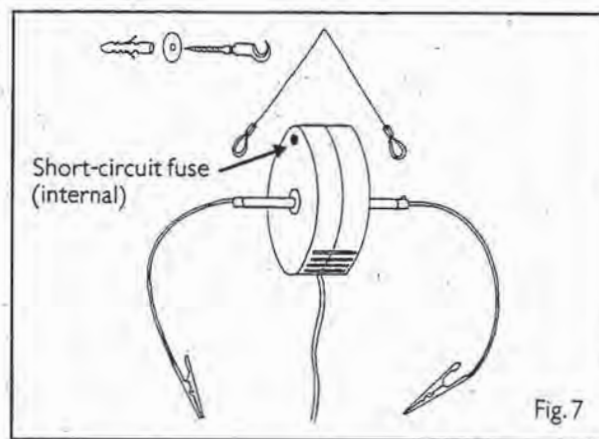

Fig. 7
2. Fit the red loops on the mounting fixture over the connecting wires on the transformer and ensure that the loops are sitting correctly in the grooves. Hang the transformer up on the hook (Fig. 7).